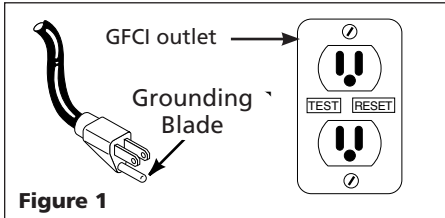

Figure 1
11. This equipment is only for use on 120 volt (single-phase) and is equipped with an approved 3-conductor cord and 3-prong, grounding-type plug as shown in Figure 1.
To reduce the risk of electric shock, the motor must be securely and adequately grounded. This can be accomplished by inserting pump power cord plug directly into a properly installed and grounded 3-prong (GFCI), grounding-type receptacle (as shown in Figure 1).